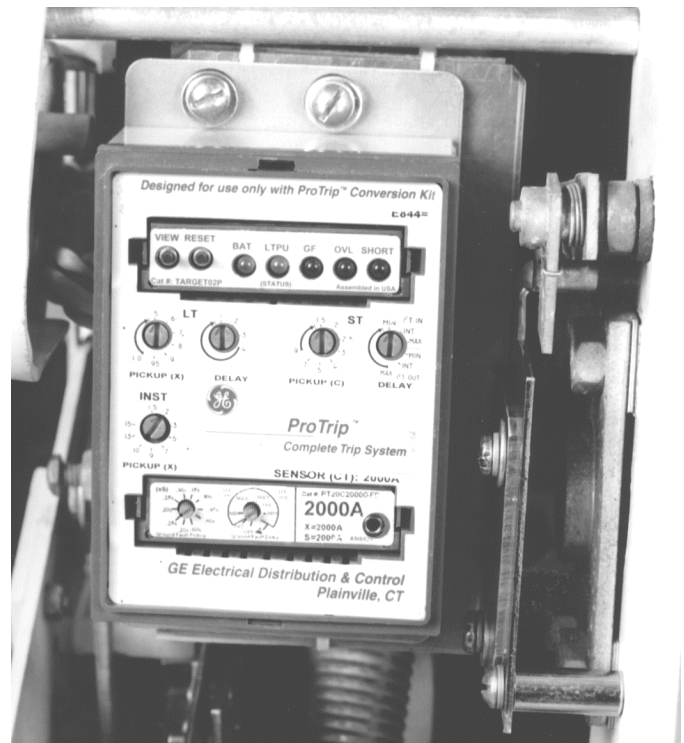

Figure 23. Trip unit mounted on the breaker.
3. Place the trip unit and mounting plate in position on the support bracket mounted on the breaker. Secure with the three screws, lock washers, and flat washers through the holes in the mounting plate into the tapped holes in the bracket, as shown in Figure 23.